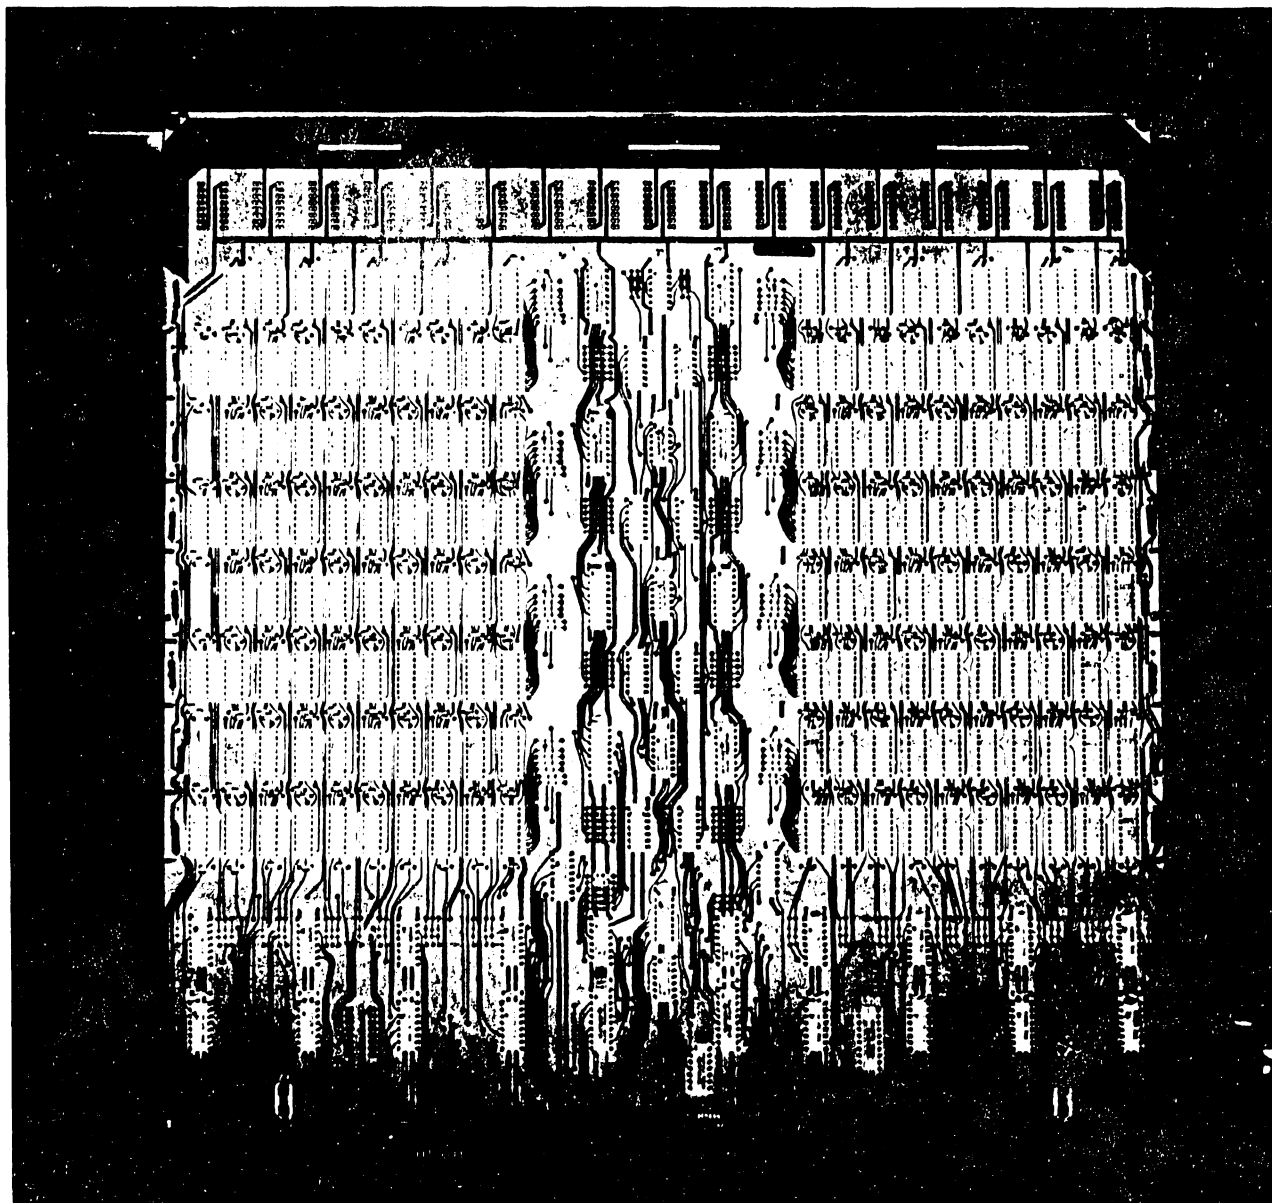

FIGURE I-5. 210-7803 MAIN MEMORY CARD
- C. Remove the 7603 Main Memory card (Figure I-5) in the same manner as the previous card.